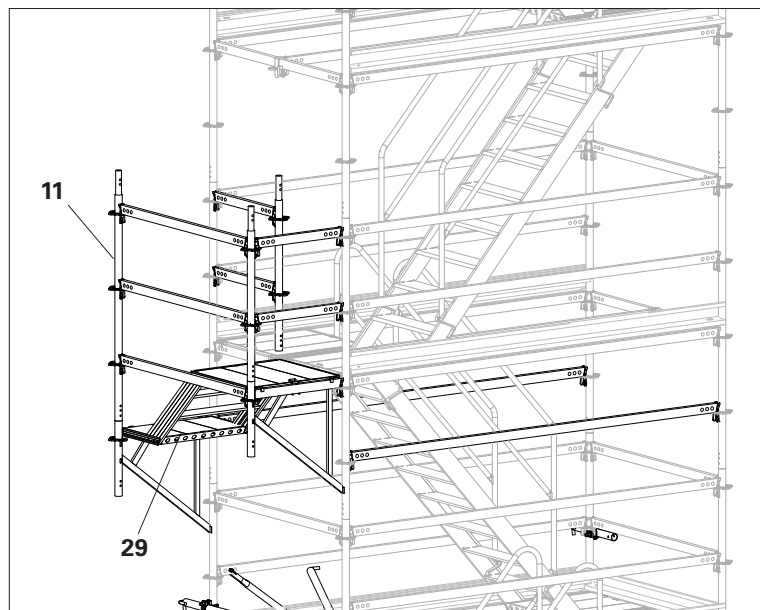

Fig. B8.06
2. Swap Flex Stair UAS-2 75 x 150/100S **(28)** for Flex Stair UAS-2 75 x 150/50S **(29)**. (Fig B8.06)